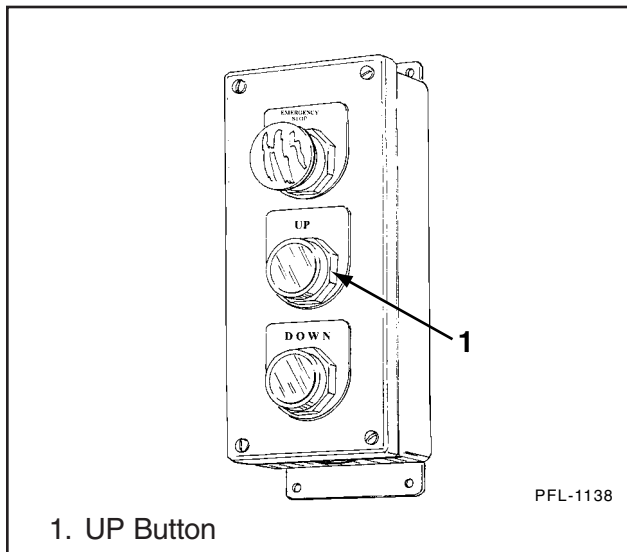
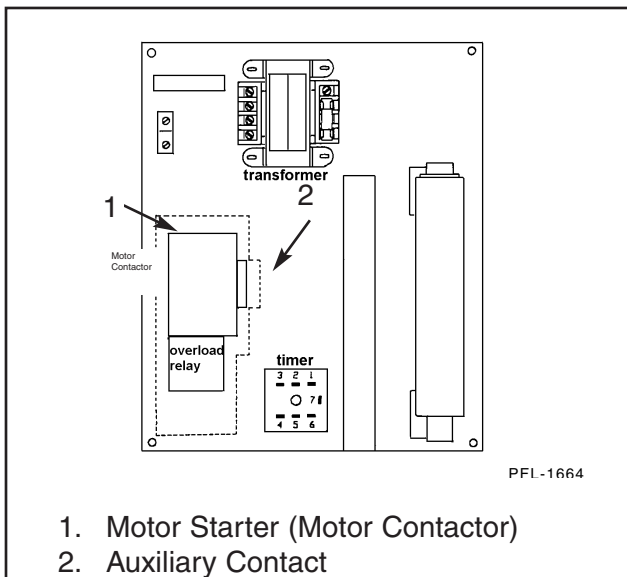

Figure 12
Figure 13
1. When the UP button at the push button station is pressed (Figure 12), the control circuit to the motor starter (motor contactor) is completed. The coil of the motor starter (Figure 13) magnetically closes the high voltage contacts completing the power circuit to the motor.
- The timing relay found in the control panel (Figure 13) is activated, holding the dump valve open. This timer is pre-set to allow enough time for the carriage to descend to the first level. The dump valve closes when either the timer “times out” or the next time the UP button is pressed. This completes one full cycle of operation.